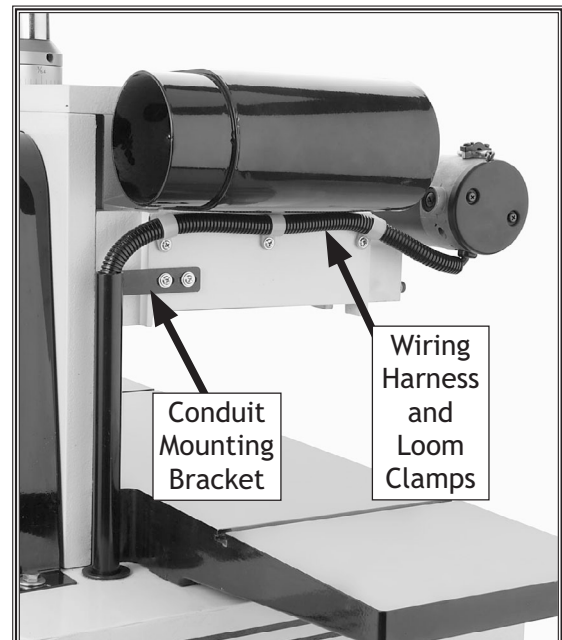

Figure 14. Conduit installation.
14. Fasten the conduit mounting bracket (**Figure 14**) to the headstock with two  $\frac{5}{16}$ "-18 x  $\frac{3}{8}$ " flange screws.